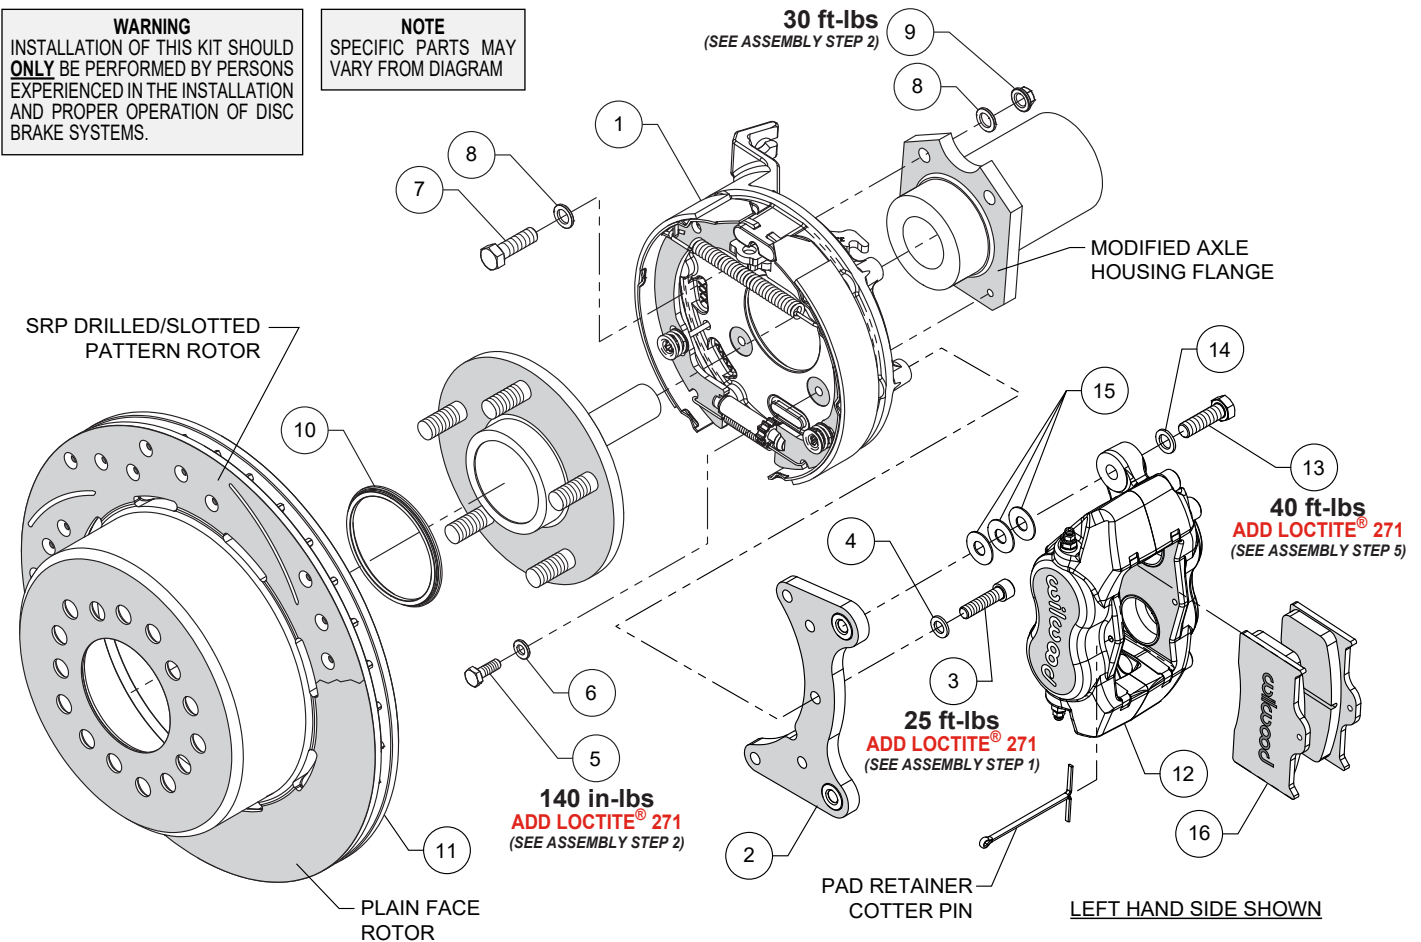
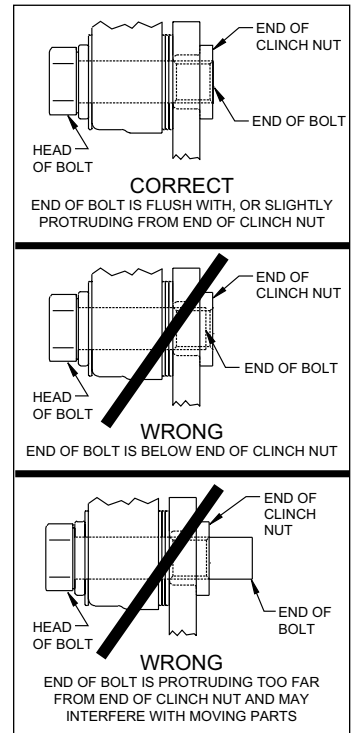

Figure 1. Typical Installation Configuration
Figure 4. Clinch Nut Engagement Diagram
**NOTE:** Numbers in parenthesis refer to the parts list and Figure 1 on the preceding pages.
- Utilizing the lower threaded holes previously used for the OE backing plate, attach Wilwood backing plate (1) to axle housing flange using Wilwood bolts (5). Use the upper mounting holes of backing plate as a template to drill new 3/8" holes into axle housing flange.
**CAUTION:** All mounting bolts must fully engage clinch nuts. Be sure to check that all bolts are either flush or protruding through flanged side of clinch nut after shimming, Figure 4.
**STEP 1** Orient the backing plate assembly (1) and caliper mounting bracket (2) as shown in Figure 1 and Photo 1. **NOTE:** Be sure the heads of the caliper bracket clinch nuts (2) are facing outward toward the wheel. Use bolts (3) and washers (4) to mount bracket to backing plate. Apply red *Loctite*® 271 to the bolt threads and torque to value shown in Figure 1.
**STEP 2** Attach backing plate assembly/caliper mounting bracket to lower threaded holes of axle housing flange using bolts (5), and washers (6), as shown in Photo 2. Use bolts (7), washers (8), and lock nuts (9) on remaining upper bolt holes to finish attaching backing plate to axle housing, Figure 1. Temporarily tighten all the mounting bolts. **NOTE:** The backing plate must fit squarely against the axle housing flange face. Inspect for interference from casting irregularities, machining ridges, burrs, etc. After the fitment has been checked, torque nuts (9) to value shown in Figure 1. Remove the backing plate lower M6 mounting bolts (5) one at a time, apply red *Loctite*® 271 to the threads and torque to value shown in Figure 1.
**STEP 3** Slide the axle into the axle housing and secure following OEM instructions. Install the rotor registration adapter (10) onto the axle flange with the smaller O.D. facing toward the rotor/hat (11), Photo 3.
**STEP 4** Align the correct hole pattern in the rotor/hat with the stud pattern on the axle flange and slide into place, Figure 1 and Photo 4. **NOTE:** The rotor/hat must fit flush against the axle flange or excessive rotor run out may result. Install three lug nuts (finger tight) to keep the rotor/hat assembly in place while continuing with the installation, Photo 4. **NOTE:** Some OEM and after market axles come with stud sizes larger than 1/2" diameter. Verify stud size and have a qualified machine shop drill the bolt circle of the hat/rotor to the correct stud size, if necessary.
**STEP 5** **NOTE:** Please reference the caution statement at the beginning of the assembly instructions. Mount the caliper (12) onto the caliper mounting bracket (2) using bolts (13) and washers (14), as shown in Figure 1 and Photo 6. Initially place three .035"
*The end of each bolt (13) must be flush with or slightly protruding from the head of the clinch nut, as shown in Figure 4.* If necessary place spare shims between washer (14) and caliper mounting ear to achieve the proper clinch nut engagement. Once the caliper alignment and clinch nut engagement are correct, remove the bolts (13) one at a time, apply red *Loctite®* 271 to bolt threads, and torque to value shown in Figure 1.